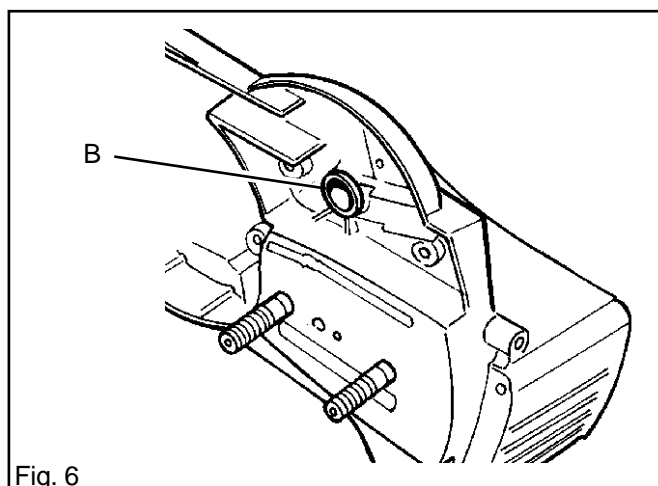

Fig. 6
- B. Remove the bush from the chain brake pivot (B). See fig. 6.